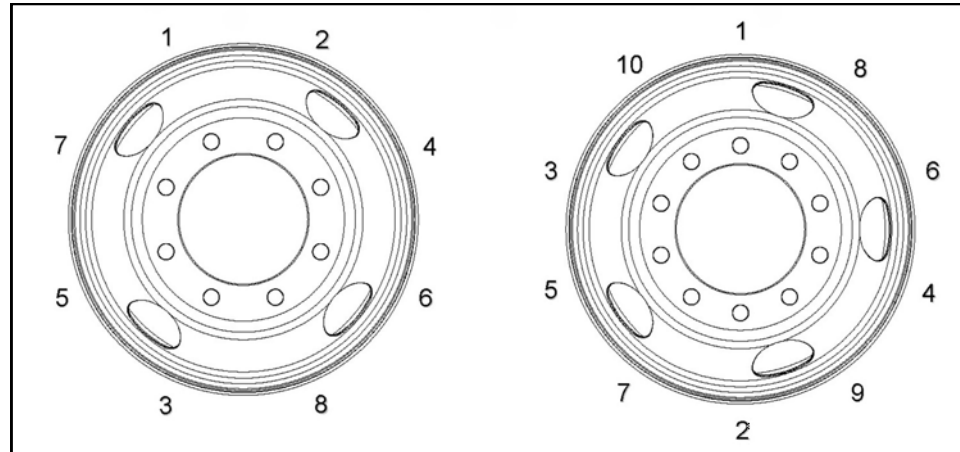

Figure 20. Disc Wheel Installation
4. Tighten nuts fully, using a crossing pattern as shown in figure 20. Be sure to tighten nuts only to the recommended torque. The correct wheel nut torque is 450-500 lb-ft (dry).